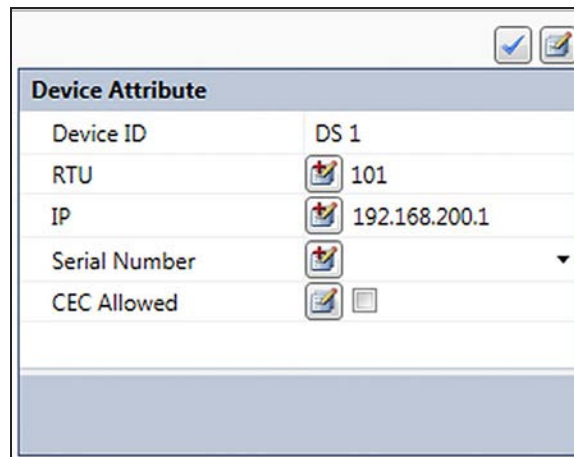

Figure 70. The Multi Update buttons on the Device Attribute dialog box.
STEP 10. Alternatively, use the Multi Update dialog box to make multiple updates. Select the desired attributes to edit, and click on the **Multi Update Dialog Box** button. Only attributes with Multi Updateable values are visible. See Figures 70 and 71.